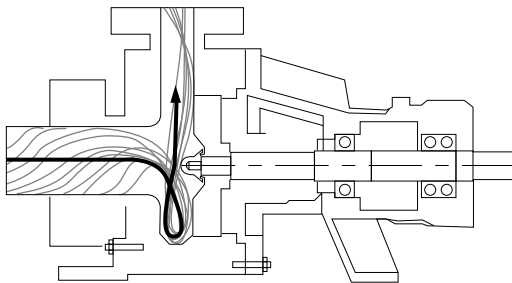

FIGURE 11. Vortex Pump
- A vortex pump comprises a standard concentric casing with an axial suction intake and a tangential discharge nozzle (Figure 11). The straight radial-bladed impeller is axially recessed in the casing. The recess can range from 50% to 100% where the impeller is completely out of the flow stream. The rotating impeller creates a vortex field in the casing that motivates the liquid from the centrally located suction to the tangentially